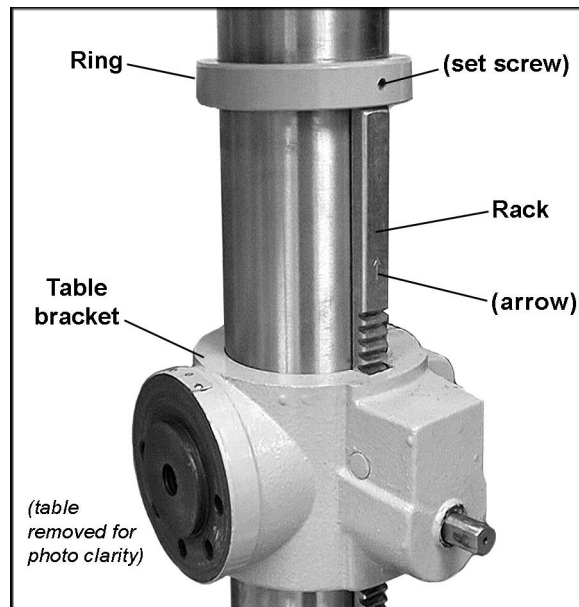

Figure 3
1. Remove the ring from the column by loosening the set screw and sliding the ring off. Also remove the rack. See Figure 3.
2. Set the table bracket (attached to the table) over the column while sliding the rack down through the slot in the table bracket and against the column (Figure 3). The lower end of the rack should rest in the lip of the holder, as shown in Figure 5. Make sure the rack is oriented properly; the *long* flat section should be toward the top and the *short* flat section toward the bottom. (The arrow inscribed on the rack should point upward, as shown in Figure 3.)
4. Place the ring onto the column and slide it down over the top edge of the rack (see Figure 3). Tighten the set screw on the ring.